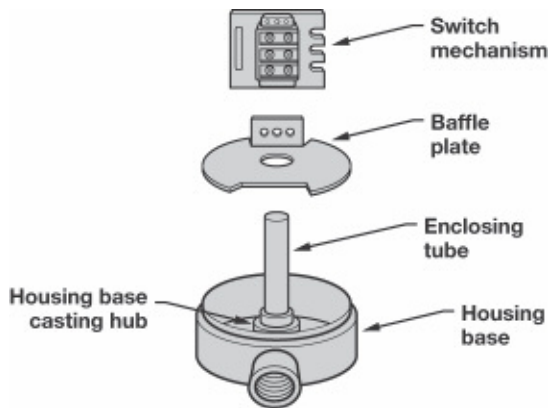
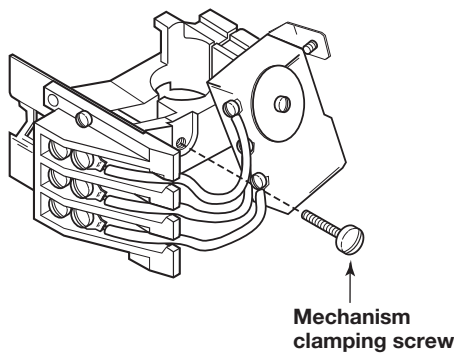
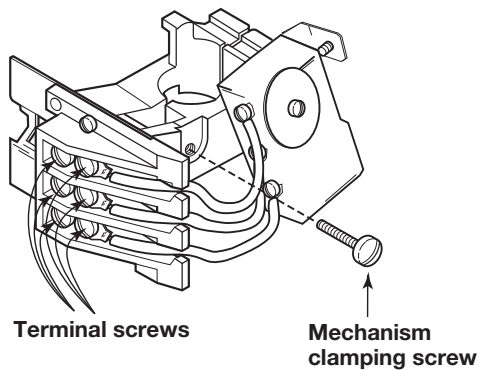

Figure 19
Figure 20
Figure 22
4. Make sure the switch mechanism is seated all the way down on the baffle plate. Refer to Figure 19. Additionally, check that the mechanism clamping screw is tightened to assure that the mechanism is secured to the enclosing tube and in proper position on the baffle plate. Refer to Figure 20. The baffle plate should rest on the housing base casting hub.
6. Vibration may sometimes cause terminal screws to work loose. Check all terminal connections to be certain that screws are tight. Refer to Figure 22.
4. Make sure the switch mechanism is seated down on the baffle plate. Refer to Figure 19 on page 20. Additionally, check that the mechanism clamping screw is tightened to assure that the mechanism is secured to the enclosing tube and in proper position on the baffle plate. Refer to Figure 22. The baffle plate should rest on the housing base casting hub.